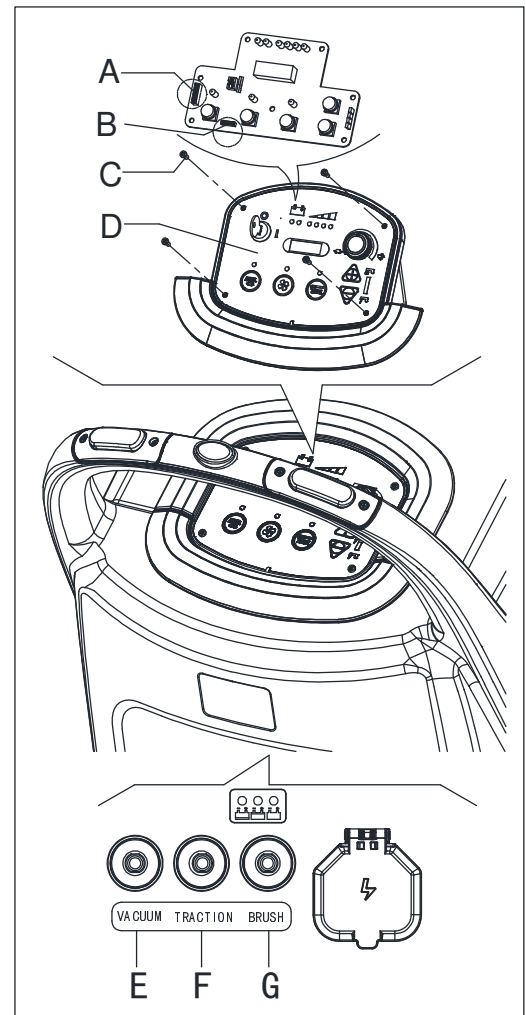

Figure 24
3. Remove the screws(C .Figure24) on control panel (D), then turn over the PCB to find the fuse (A, B, Figure 24).